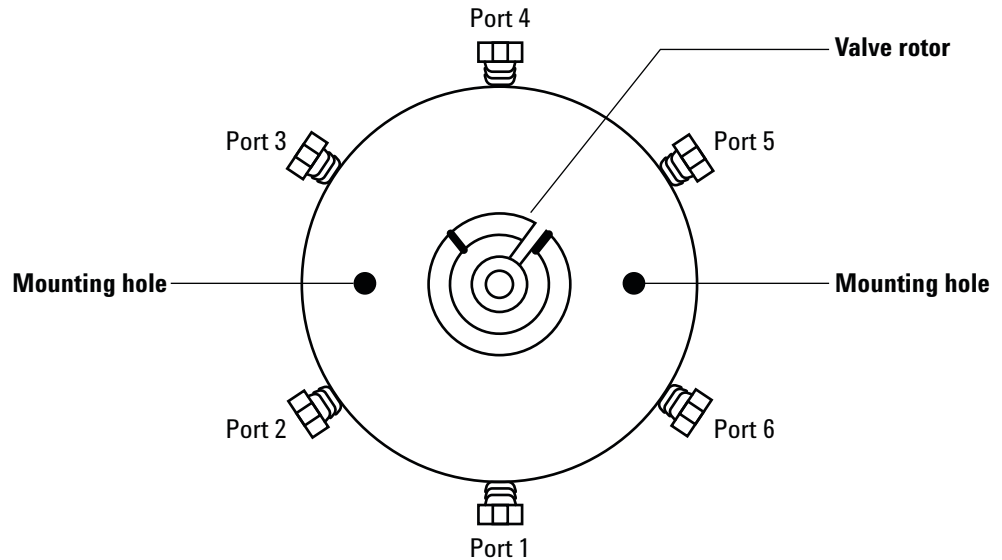

Figure 33 The 6 port valve and valve rotor
- 10 Using a small pencil magnet, set the new rotor in place on the 6 port valve with the rotor ID letter facing port 4 (Figure 33).